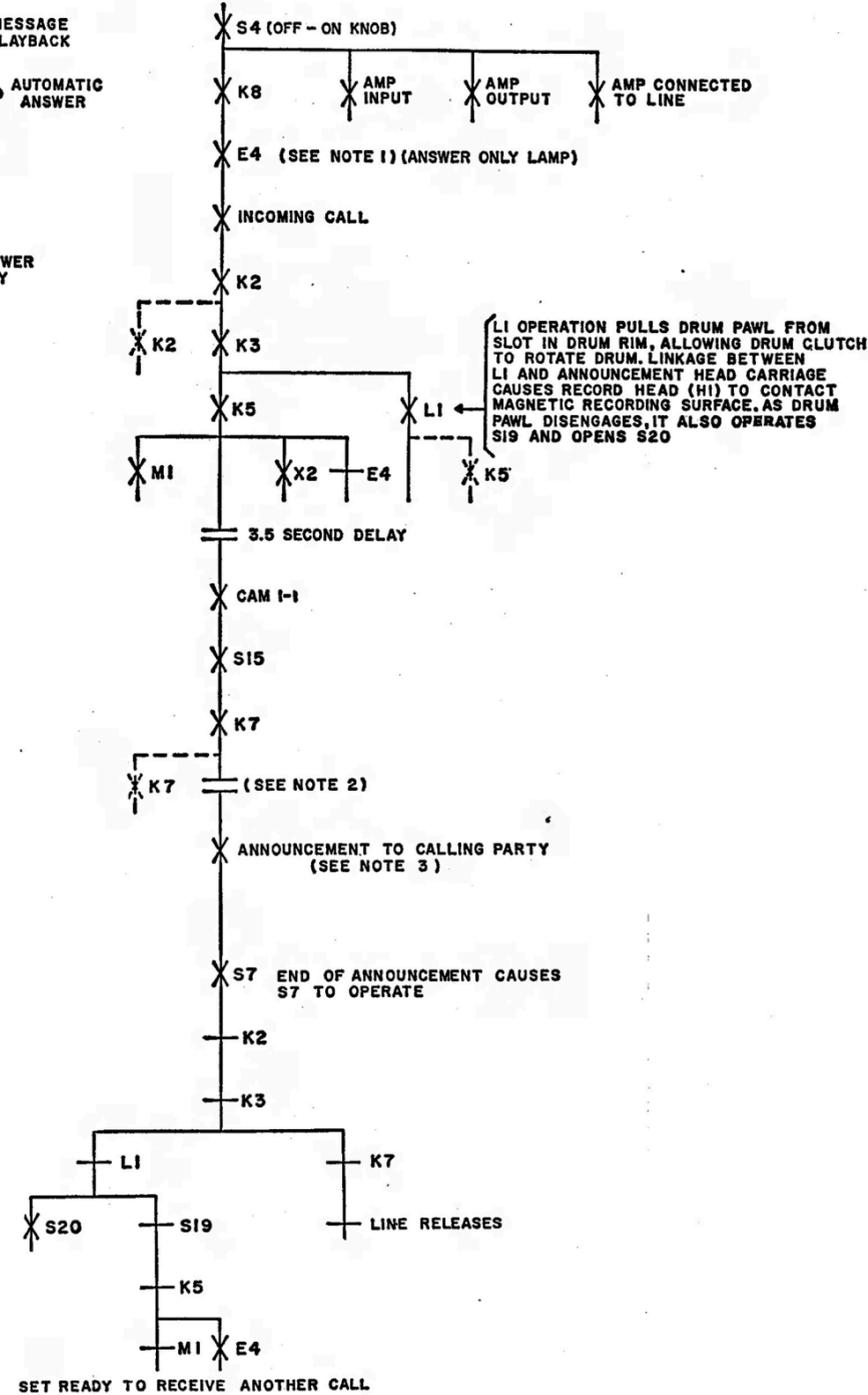

Fig. 7
- Automatic Answer — Answer Only (Fig. 7 and 8)